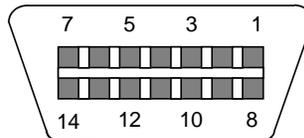

Figure 2-3: Pin assignments for the Load Cell Port
1. If you do not wish to use the shielded load cell cable, you may use your own, following the pin assignments shown in Figure 2-3. (A 14-pin Male Centronics-type connector is required).